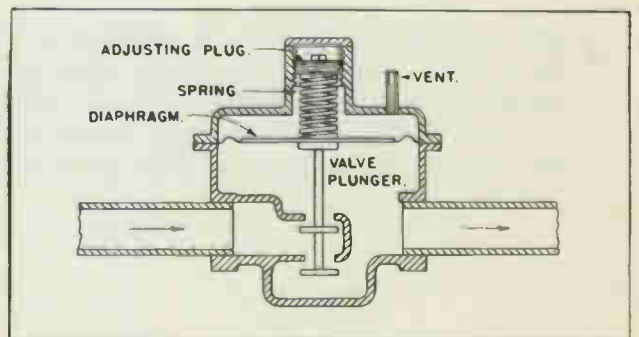

Fig. 13
- b. Pressure regulator - see figure 13
The pilot is supplied with gas from a separate shut-off valve. The pilot, which burns through out the heating season, has two jets or flames. One flame is directed toward the burner to light the main flame when the magnetic valve opens, and the other flame is directed against the tip of a tube which contains a thermocouple. Current generated by the thermocouple, due to the heat from the flame, holds a sensitive relay in a closed position, contacts for which are in the magnetic control valve circuit, Fig. 13.